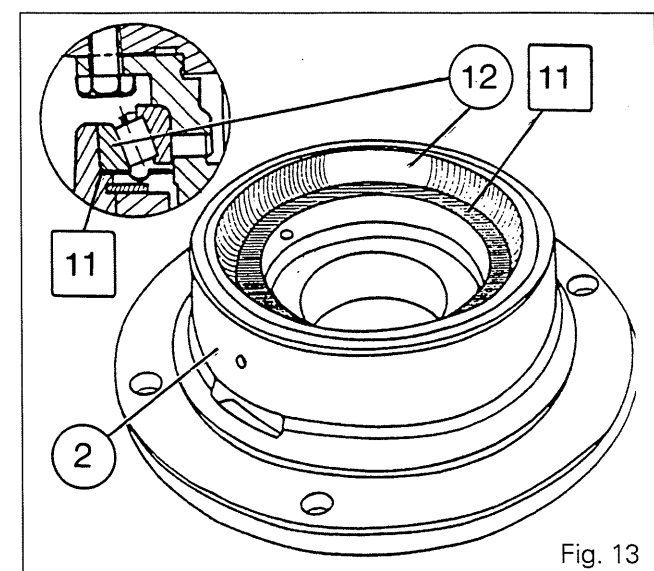

Fig. 13
66. Remove the tool and the bearing cup (12).
67. Position the deflector shim [11] selected in operation 65 and the cup (12) in the carrier (2).
**Note: Ensure that the deflector shim is fitted the right way round (Fig. 13).**
**Assemble:** the friction ring (8), the sliding coupler (9) and the spring (10) into the carrier (2). Fit the assembly with the differential lock supply port facing upwards.